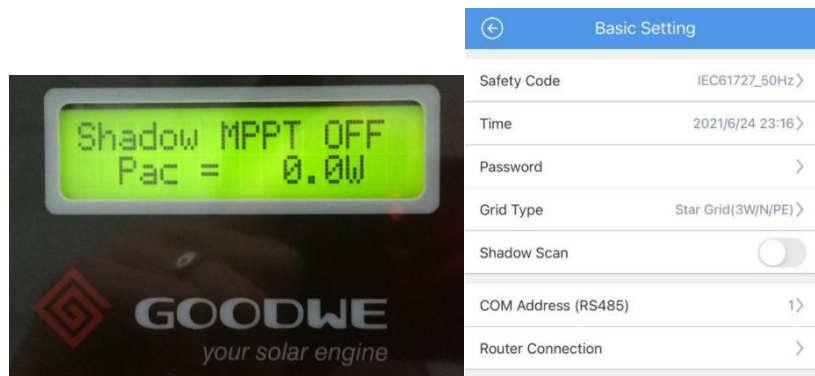

Fig 7. Activate Shadow Scan Function On Inverter display or SolarGo
- 2. Shadow scan function is turned off as default setting on each inverter. If it needs to be activated, please do the commission on the display or through SolarGo APP (Fig 7)*